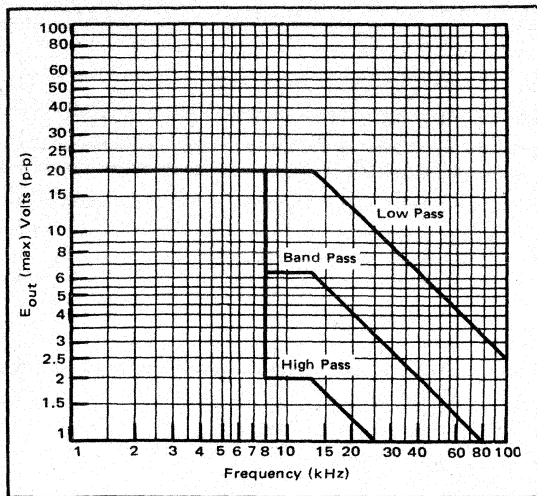
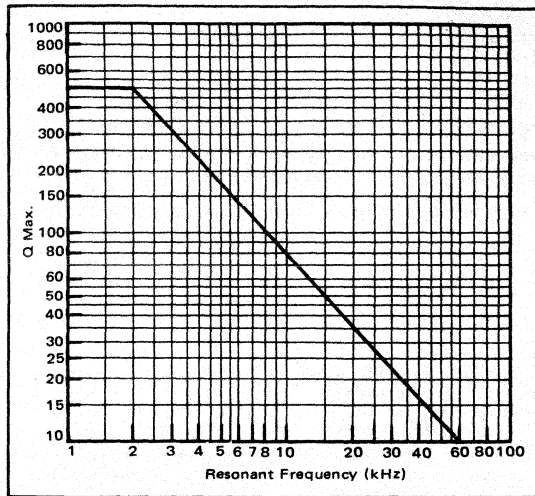

FIGURE 2. Full Power Response
FIGURE 3. Q Max. vs. Resonant Frequency
- (1) The tolerance of external frequency determining resistors must be added to this figure.
- (2) T.C.R. of external frequency determining resistors must be added to this figure.
- (3) See figure 3 for Q vs. F curve.
- (4) Q stability varies with both the value of Q and the resonant frequency  $f_o$ .
- (5) See figure 2 for full power response curve.
- (6) Measured at the band pass output with Q @ 50 over DC to 50 kHz.
- (7) The current required to drive  $R_{F1}$  and  $C_1$  and  $C_2$  must come from this current.
- (8) For supplies below ±10 V, Q max will decrease slightly; filters will operate below ±5 V.